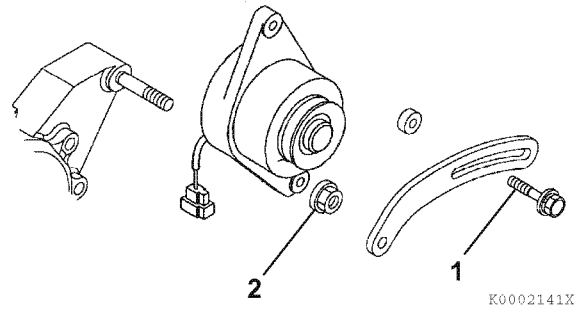

Figure 12-23
3. Remove the V-belt adjuster from the dynamo bolt (1, **Figure 12-23**).
4. Remove the nut (2, **Figure 12-23**) from the gear case stud. Remove the dynamo.